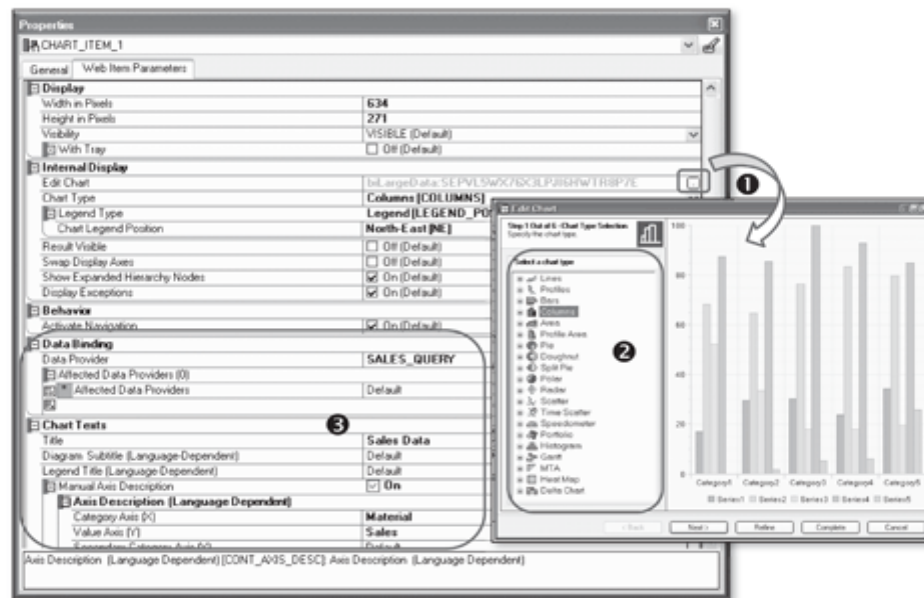

Figure 11.10 Maintain Chart Properties
Different parameters that control the display, behavior, and other chart settings are maintained as a part of chart properties (see Figure 11.10).
The Edit Chart option (see ❶ of Figure 11.10) opens up an Edit Chart window, which is much like a chart wizard (similar to that of Excel). On this screen, you can select the type of chart from the numerous available chart types (❷) and configure the chart at a detailed level.
Maintain the data binding and chart-specific settings as shown in ❸ of Figure 11.10.
We discussed this web item while creating the web application in Section 11.2, Create a Simple Web Application. The Chart web item is used to display the data in a graphical format and is based on a data provider. The different parameters shown earlier in Figure 11.10 control the display, behavior, and so on for the chart. A wide variety of chart options is available in the web application designer. These charts/graphs can be customized using the chart wizard, which can be called from the chart properties (refer to Figure 11.10).